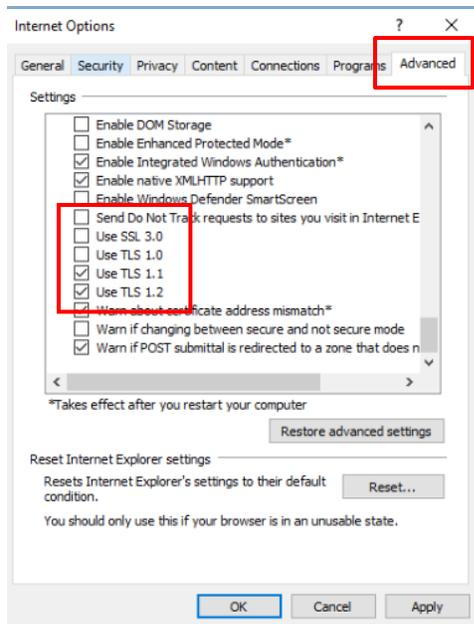

Figure 68: Advanced Tab in Internet Tools
- Click the *Advanced* tab as shown in Figure 68: Advanced Tab in Internet Tools.